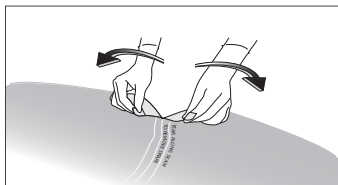

Fig. 12
- Tear along seam to remove drape (refer to Fig. 12).